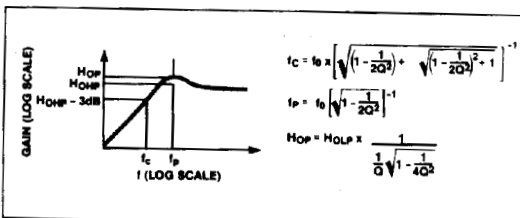

Figure 3. Highpass Filter Terminology
- $H_{OHP}$ : The gain in V/V of the highpass output at  $f = f_{CLK}/2$ . See Figure 3.